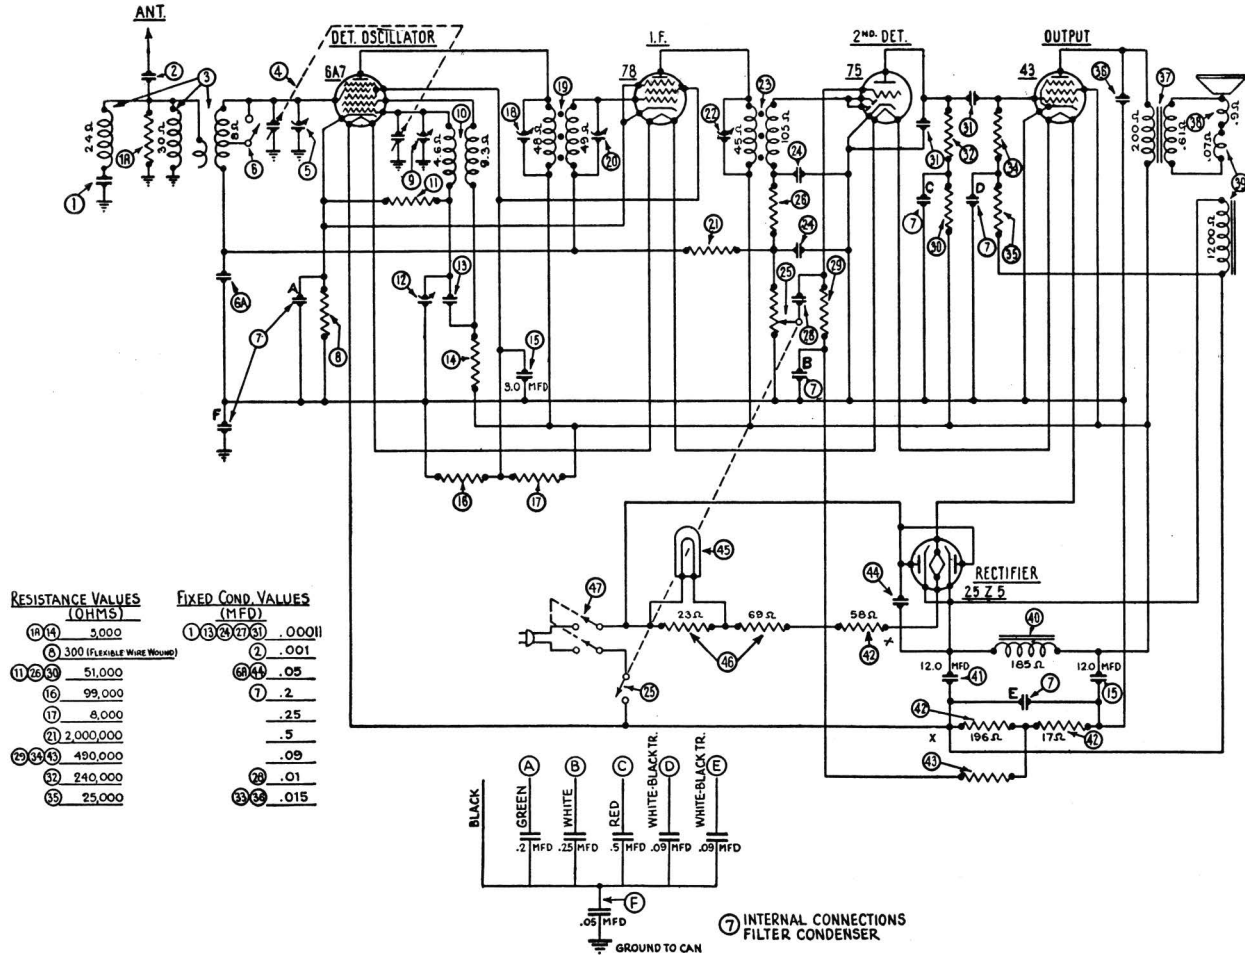

Fig. 3—Schematic Wiring Diagram
NOTE—Due to filaments in series, test with suitable A. C. voltmeter across the two points on Resistor (42) marked with an X in Fig. 3.
NOTE—Due to filaments in series, test with suitable D. C. voltmeter across the two points on Resistor (42) marked with an X in Fig. 3.